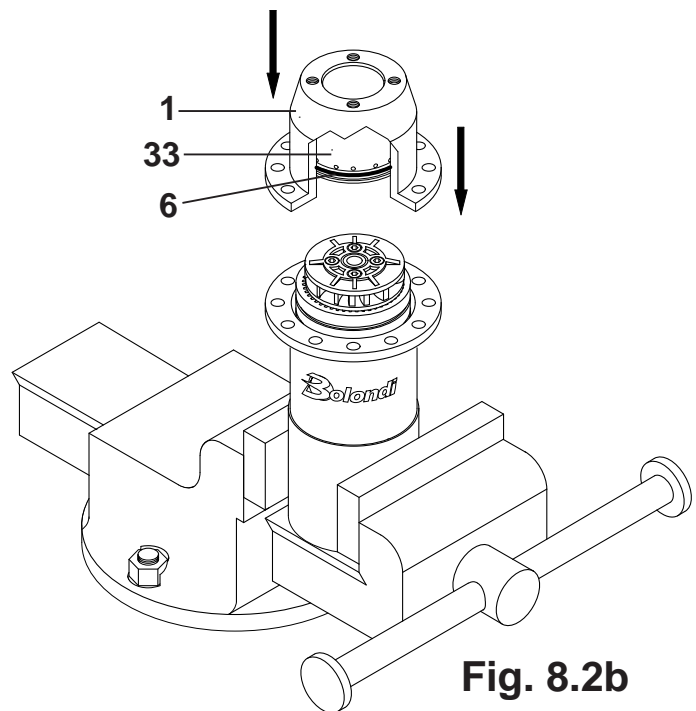

Fig. 8.2b
- c) With the diffuser inserted, position the upper casing on the remaining part of the head, see **(fig. 8.2b)**, and fix it with the twelve bolts **pos. 57** and nuts **pos. 58**.